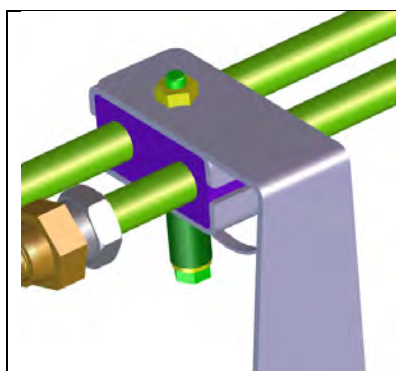
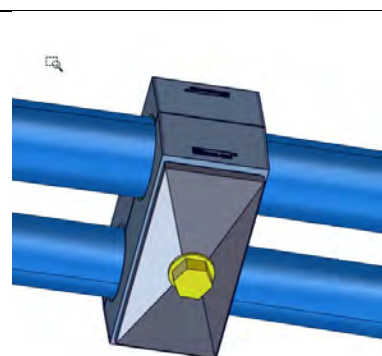

FIGURE 7: PIPE CLAMP TYPE 1
FIGURE 9: HOSE CLAMP TYPE 3
11. Tighten all the pipe & hose clamps previously loosen. See Figure 7 to Figure 9 for appropriate torque. Add a **torque seal** mark once properly tighten.